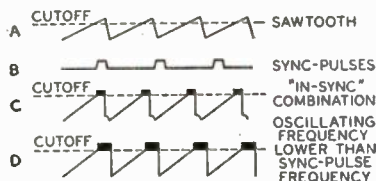

Fig. 71
are also applied to the grid of V_1 . The waveforms shown in Fig. 71 illustrate the sawtooth and sync pulses (A and B) and their proper "in-sync" combination (C). The sync pulse occurs partly during the portion of the sawtooth voltage in which the triode V_1 draws current. Any shift in sync pulse as it is superimposed
For example, waveform D in Fig. 71 illustrates a condition in which the sawtooth voltage is advanced in phase with respect to the sync-pulses. The widening of the pulse which occurs at the corner of the sawtooth waveform allows the control tube to conduct more current and, consequently, allows the capacitor C_1 to charge to a higher voltage. This increased reference voltage is, in turn, fed to the oscillator (V_2) grid through the voltage divider (R_1, R_2) and increases the positive bias. The increased